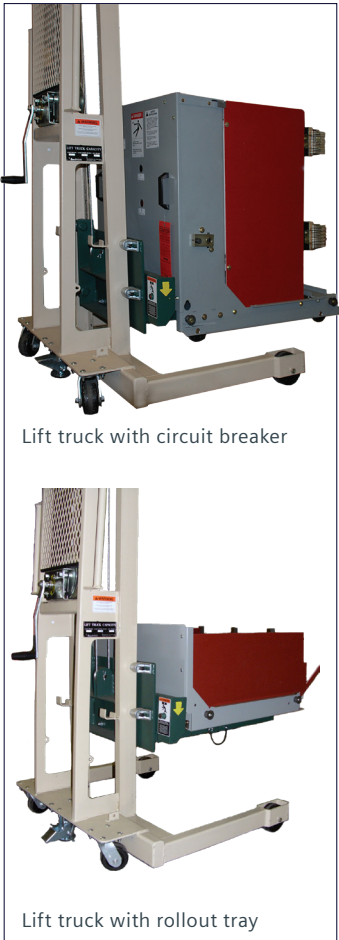

Figure 42: Lift truck with circuit breaker and lift truck with rollout tray
6. Remove the circuit breaker from the two extension rails using the approved Siemens lift truck (refer to Figure 41: Lift truck engaged - note position of indicator pin, Figure 42: Lift truck with circuit breaker and lift truck with rollout tray and Siemens lift sling (refer to Figure 56: Lift sling).